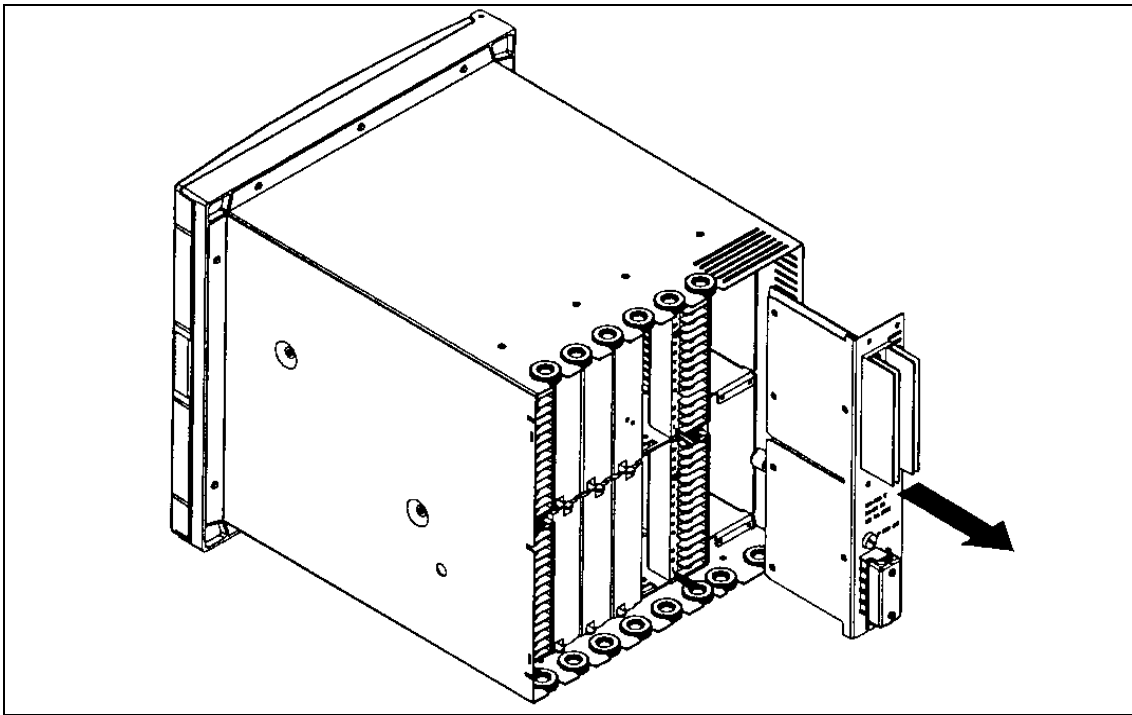

Figure 2-6
13. Remove the power supply. (See Figure 2-6)